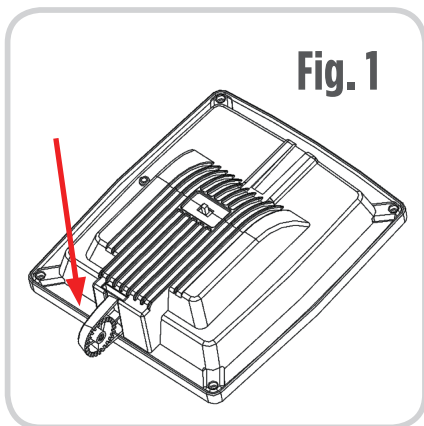
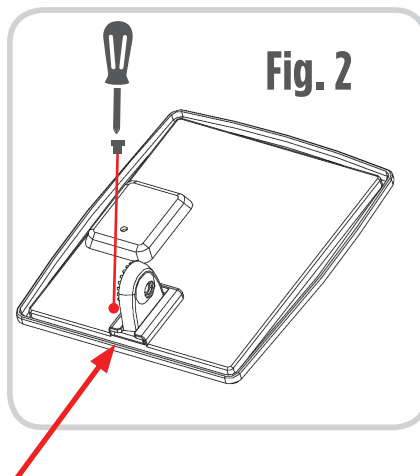

Fig. 1
Fig. 2
1. Part A can be attached to Part F (**Fig. 1**) or G (**Fig. 2**) by sliding the tapered end of the wedge into the groove at the bottom of the lamp or solar panel. **NOTE:** Push the part into the groove firmly so it does not easily slide out and tighten set screw.